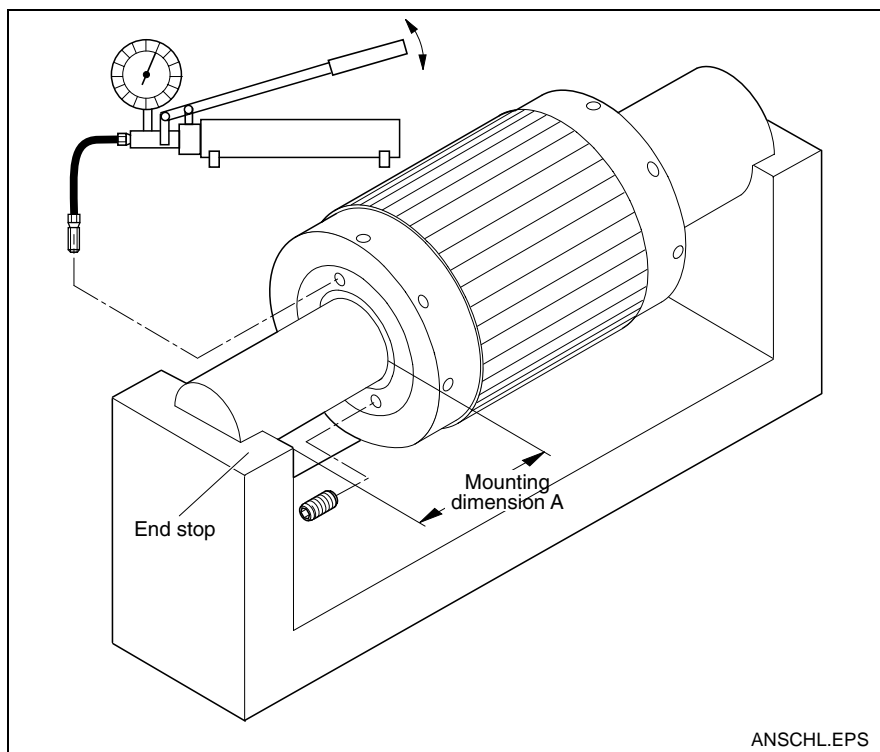

Fig. 11-15: Example for an end stop for use during removal
3. Mount the end stop (example in Fig.11-15). Note the mounting dimension (A) for the stop.